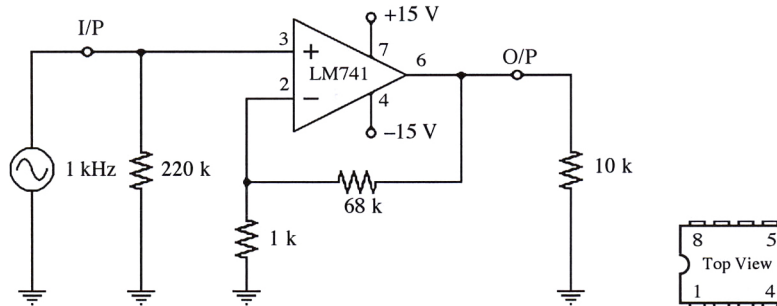

Figure 1-3. Non-Inverting Amplifier Circuit
1. Simulate the circuit of Figure 1-3 using available software. Use a generator set to 100 mV and 1.0 kHz.
1. Connect the circuit of Figure 1-3 using an 8-pin LM741 op-amp.
2. Calculate the theoretical R_i , R_o and A_v for the circuit of Figure 1-3 and compare these values to those determined from measurements.